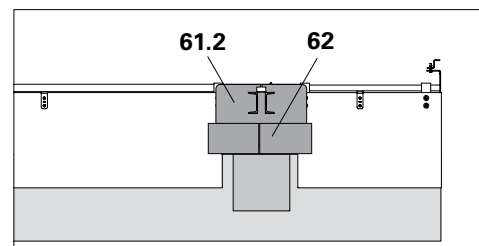

Fig. B4.02c
Close remaining gaps with Cover Mat LPS 41 x 66 (61.2) and Cover Strip (62). (Fig. B4.02c)